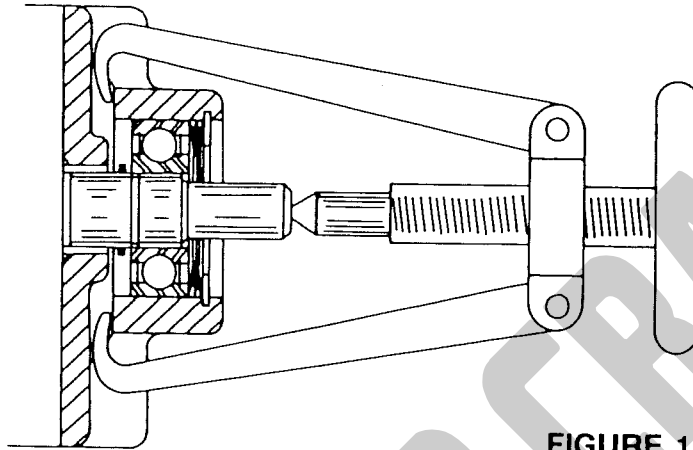

FIGURE 12
2. Use a standard gear puller to remove the dead end plate and bearing assembly. Refer to Figure 12.